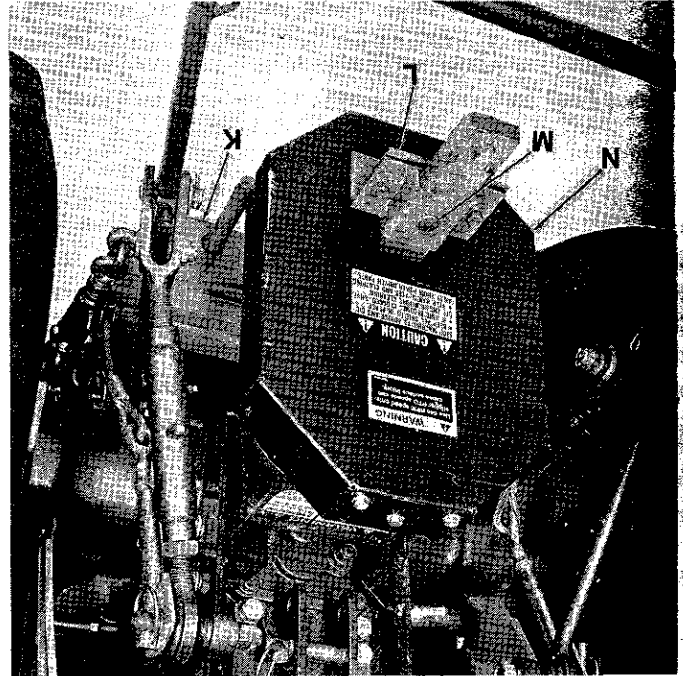

FIG. 16
1. Slide chain box (N) onto end of rear lift bracket (K). (See Fig. 16)
2. Align PTO half of chain box with PTO half of mower gearbox, then slide chain box (N) forward on rear lift bracket (K) until chain box is against rear lift bracket (K).
3. Install chain box anchor (L) on rear lift bracket (K) and secure with locating pin (M).